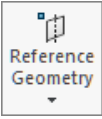

**Fig. 20**
Step 1. Click **Filter Faces**  (X) on the **Selection Filter toolbar** at the bottom of the display, **Fig. 20**. If necessary, use **F5** key to display the toolbar.